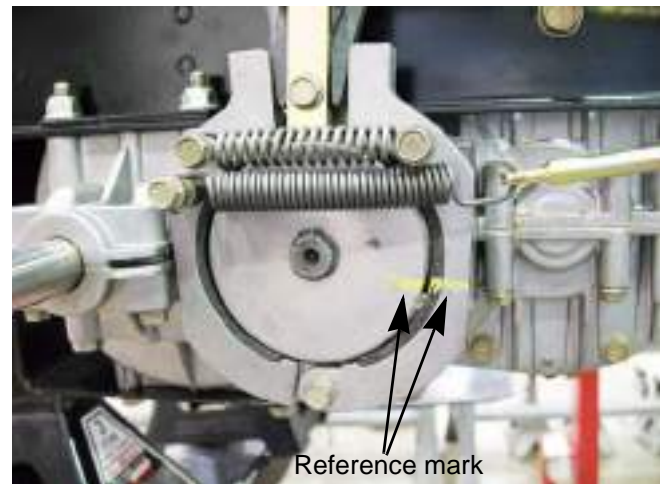

Figure 6B.18
- 14a. Before starting the tractor, mark the brake drum and shoe with a reference mark. See Figure 6B.18.